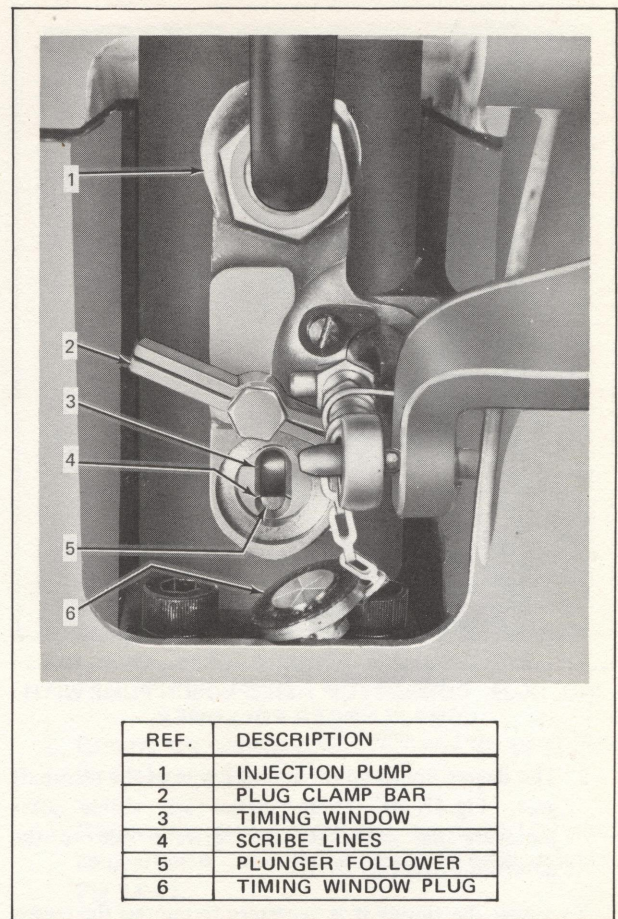

FIG. IX-38. CORRECTLY TIMED BENDIX PUMP OR BOSCH PUMP WITH SHORT PLUNGER FOLLOWER.
applied prior to early 1978 have a short plunger follower. Any of these pumps is correctly timed when the top of the plunger follower is aligned with the scribed lines in the pump timing window, Fig. IX-38.
- The scribed lines at the pump timing windows, Figs. IX-38 and IX-39. These lines are visible after the timing covers on the front of the pumps are unclamped and removed.
fuel-pump timing window, Fig. IX-38, or the scribed line on the long plunger follower is aligned with the scribed lines on the sides of the timing window, Fig. IX-39.